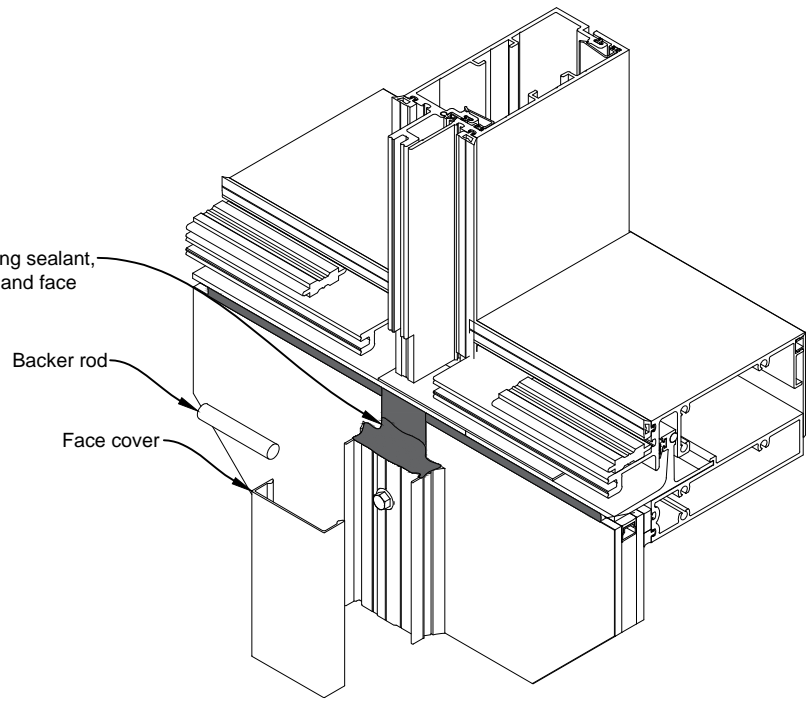

Fig. 60.2
- I. Seal the top termination point of all vertical face covers per Fig. 60.2 (below an expansion horizontal) and Fig. 58.4(top of frame).